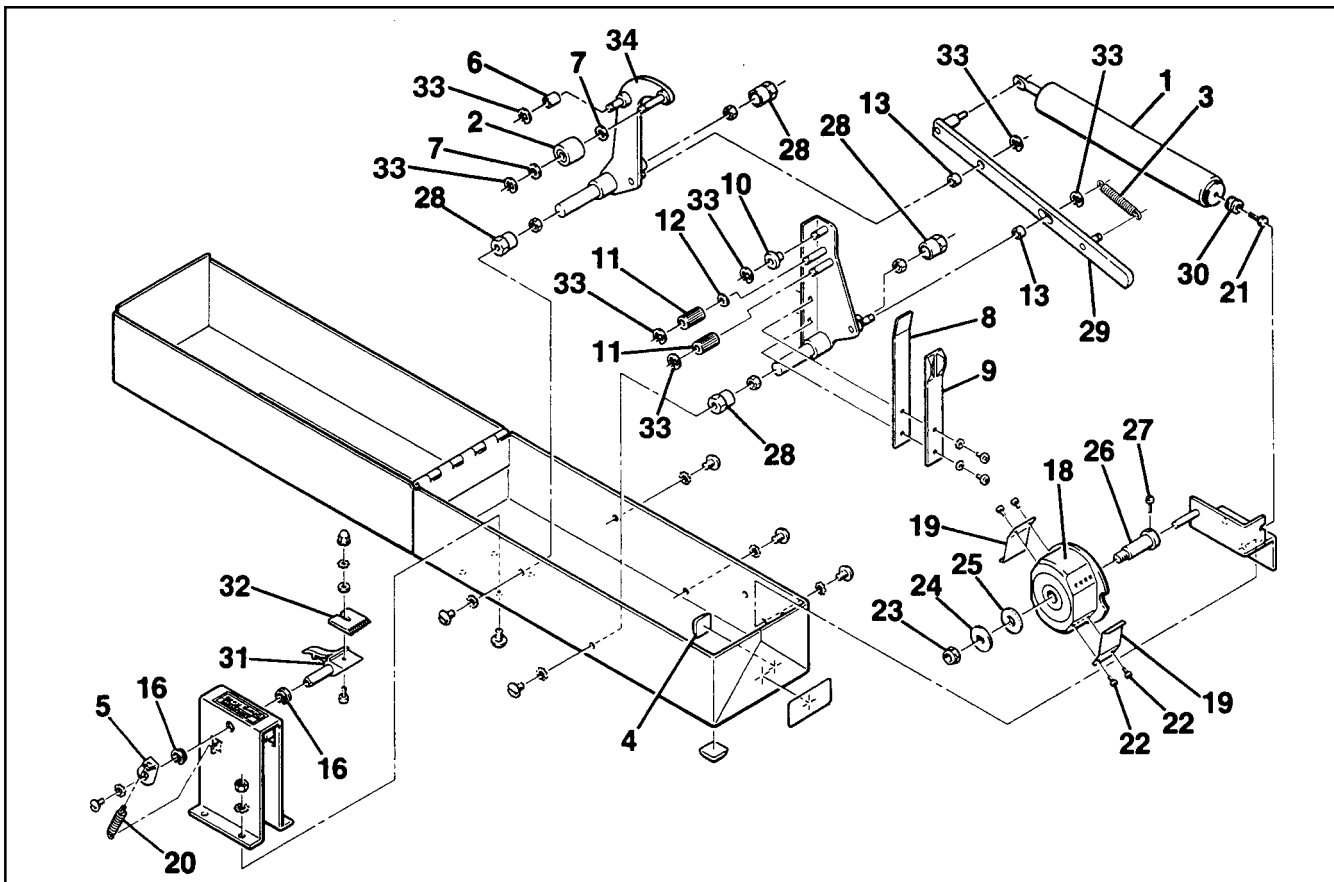

Figure 7 – Replacement Parts
DO NOT lubricate the tape drum tension assembly or the return arm on the check cylinder – Ref. No. 1, Figure 7.
1. Refer to Parts Illustration Figure 7 to find part needed and reference number.